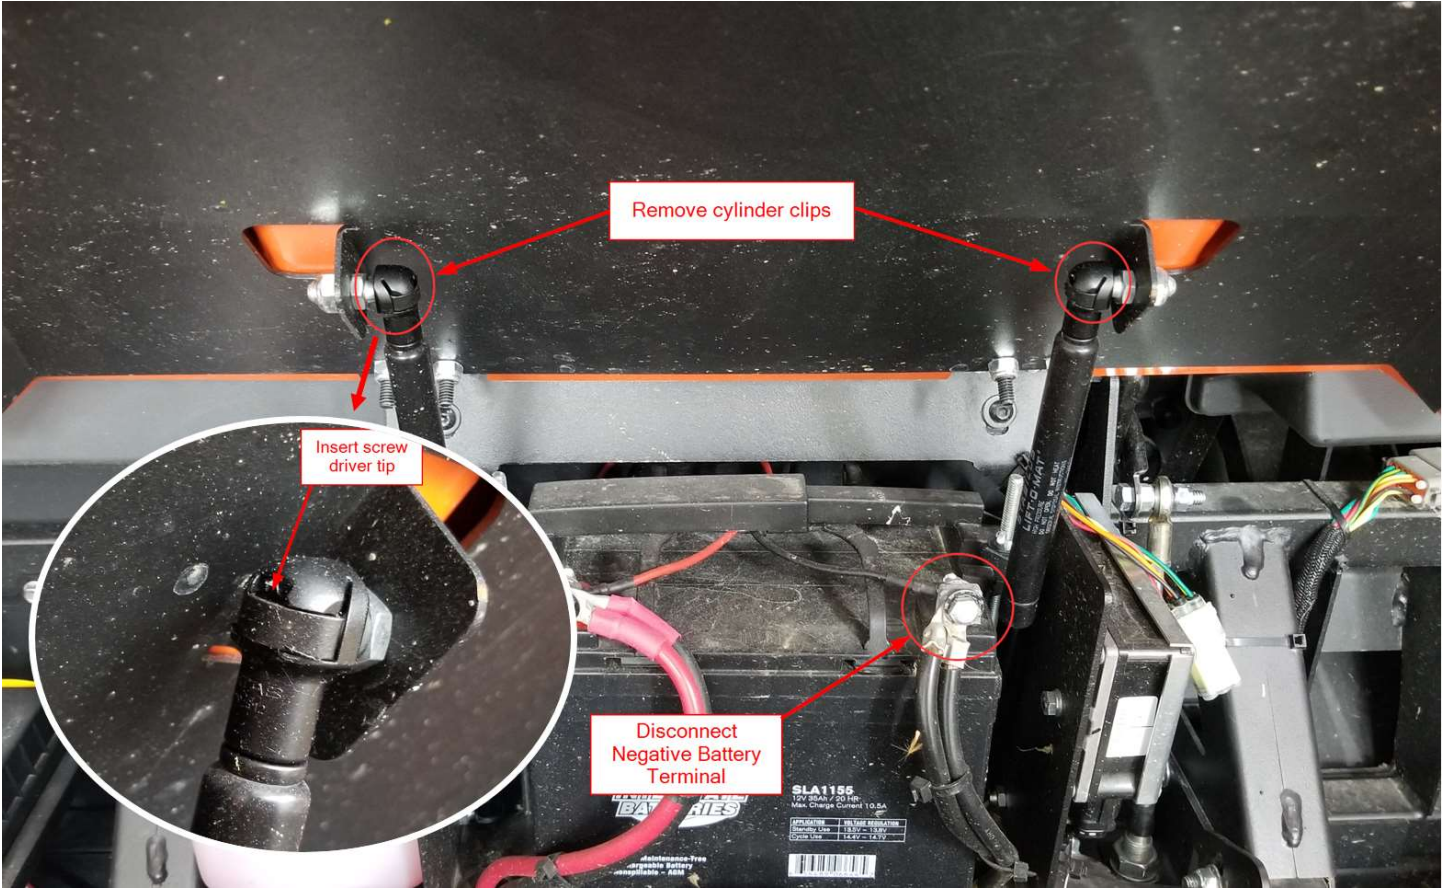
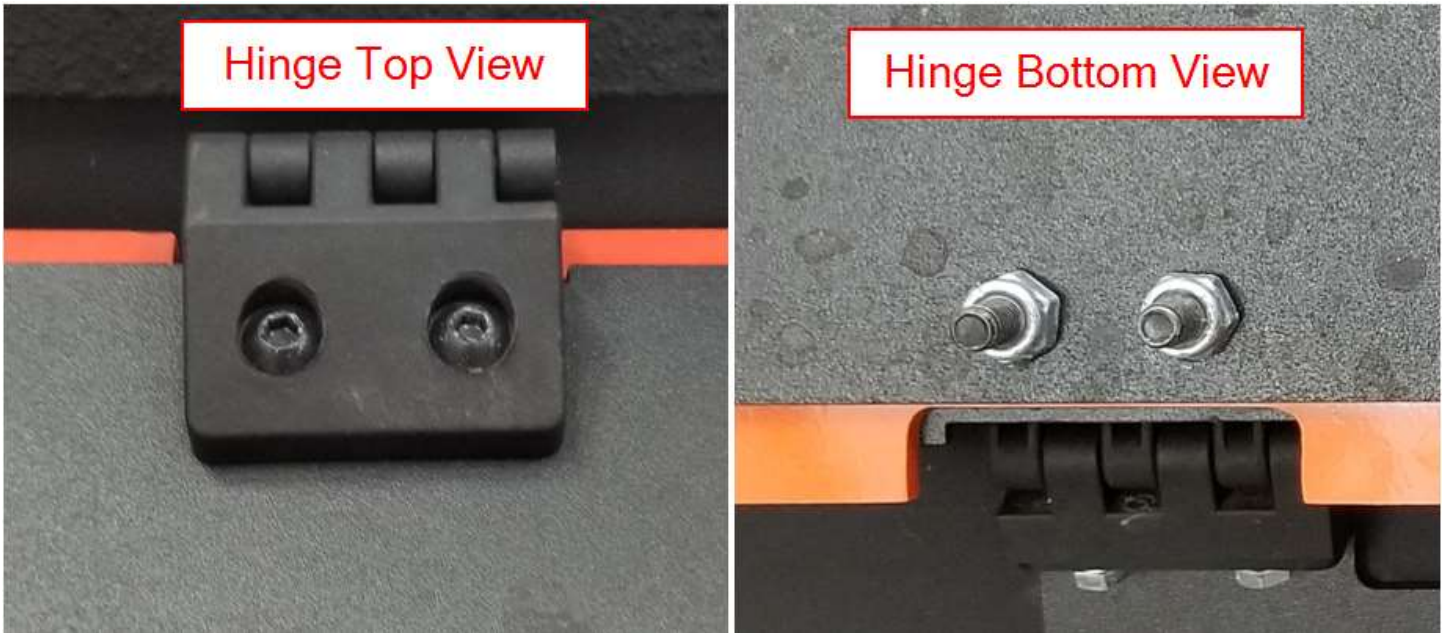

Figure 1
Figure 2
- b. Open the front hood and disconnect the negative battery terminal and secure the cable away from the terminal as shown in Figure 1.
- c. Remove the hood by first disconnecting the pneumatic cylinders. Use a flat head screw driver to remove the retainer clips (See Figure 1) on each cylinder, then pull the cylinder away from its mounting bolt. Remove the two hood hinges to disconnect the hood (See Figure 2). It may be helpful to place a 2"x4" under the hood to keep it from closing all the way while removing the hardware. Set hood aside.